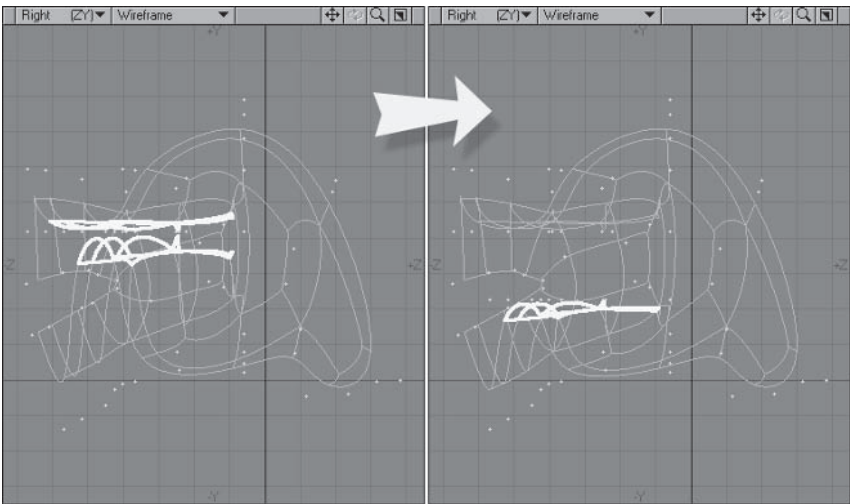

Figure 5.3-102. Shifting and positioning the gums.
2. **Super Shift** in place, then from the Right view, **Stretch** the polygons vertically to **0%**. **Move** the top and bottom sets of polygons to match Figure 5.3-102.